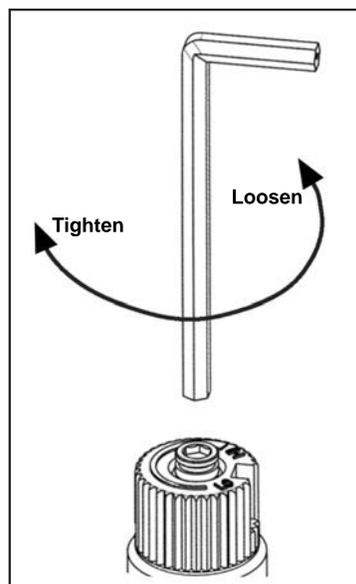

Figure 39: Removing valve screw.
- b) Insert a $\frac{5}{32}$ " or 4 mm Allen wrench into the hexagonal key-way of the screw (see Figure 39), rotate it counter-clockwise until it is free and extract it.